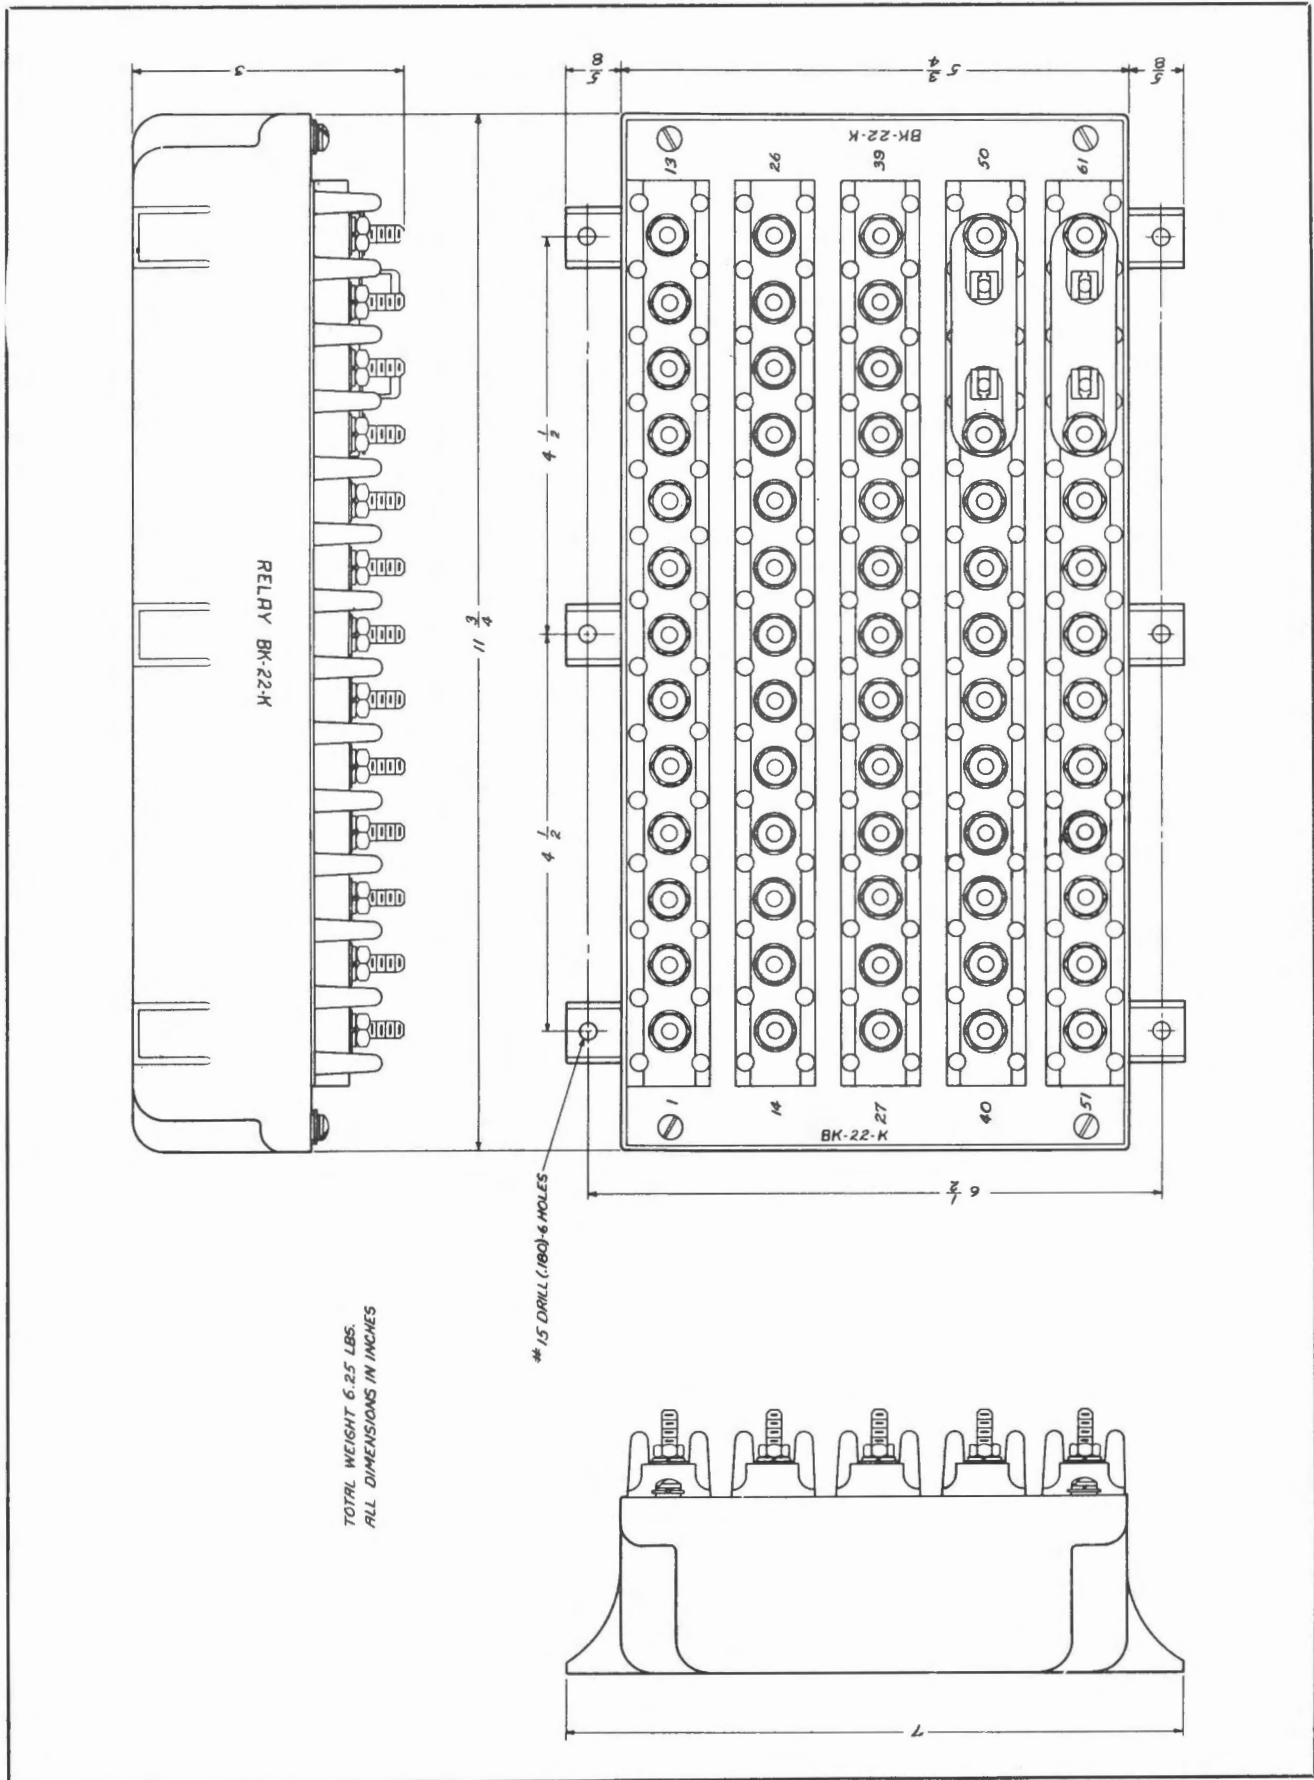

Figure 2-10. Relay BK-22-K—Outline Drawing
(1) Relay BK-22-K is provided with six mounting lugs by which the relay unit is to be securely fastened into the connector box in the aircraft wiring system. (See fig. 2-10.) It is accompanied by a bag of terminal lugs and nuts, a fuse block marked "20 AMP.", and a terminal bar or link. Locate Relay BK-22-K centrally in the connector box to allow clearance on all sides for wiring. Pull the mounting screws down evenly to avoid distorting the relay. Arrange the cables to the relay terminals and bind in place so that they enter the relay from one side. Without disconnecting any cable, remove the relay panel screws and fold the relay panel outward to expose the internal parts for inspection.
(2) Mounting is provided on the terminal panel for two Air Corps fuses (Specification No. 32271). The fuse block between terminals 49 and 50 is for the a-c supply fuse and is marked "115V A.C.-FUSE 3A." This fuse should be rated at 3 amperes.